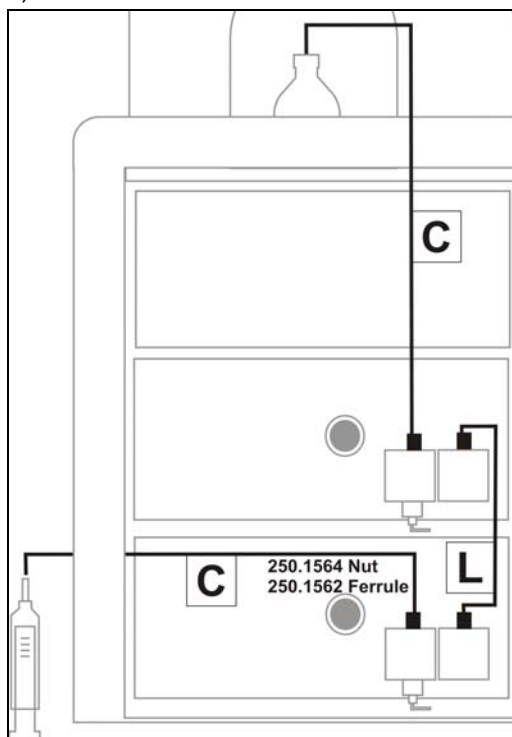

Figure 7. Assemblies C & L: Connection of piston wash of the two LC 100 pumps.
Place one tubing end in the bottle with wash solvent as depicted in figure 7. Connect the syringe (p/n 182.0408) supplied in the LC 100 ship kit to the other tubing. Install the interconnection tubing (L) and fill the piston wash with wash solvent by withdrawal of the syringe.